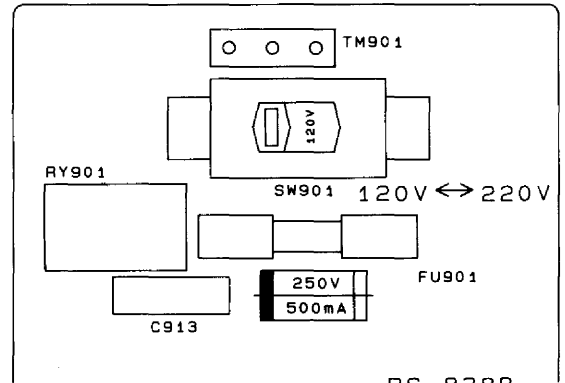

Fig.2
- Locate Power Supply P.C.Board on the left side of the front panel(See Fig.2).